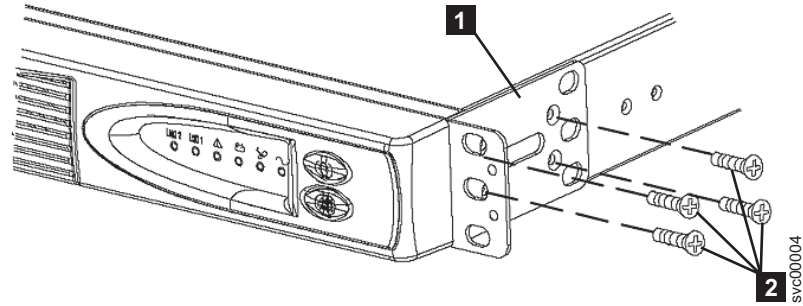

Figure 121. 2145 UPS-1U mounting bracket
2. On each side of the 2145 UPS-1U, attach the long end of a mounting bracket to the 2145 UPS-1U using four of the supplied M3 × 6 screws. See **2** in Figure 121 on page 291.